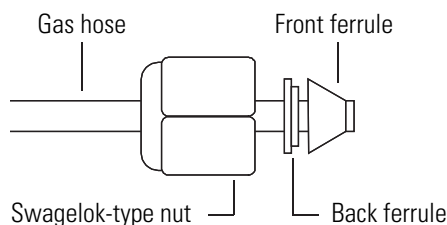

Figure 1-28. Proper orientation of the Swagelok-type nut and two-piece ferrule
1. Connect an appropriate length of 1/8-in. ID copper or stainless steel tubing with a brass Swagelok-type 1/8-in. nut (P/N 00101-15500) and a 2-piece brass 1/8-in. ID ferrule [P/N 00101-08500 (front), P/N 00101-2500 (back)] to the Helium gas inlet. See Figure 1-28 for the proper orientation of the fitting and ferrule.